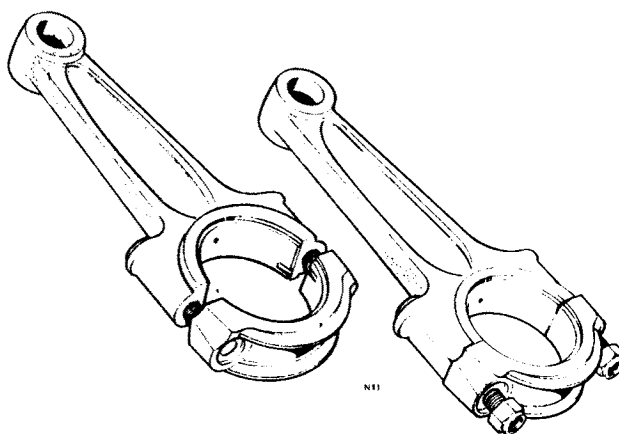

Fig. C34
- 2 Fit the plain shell into the connecting rod cap and again locate the tab. The tab positions are shown in Fig. C34.